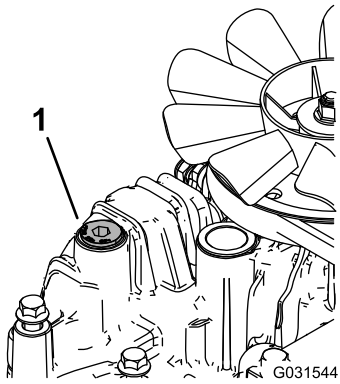

Figure 71
11. Loosen the vent plug in each transmission so that it is loose and wobbles (Figure 71).